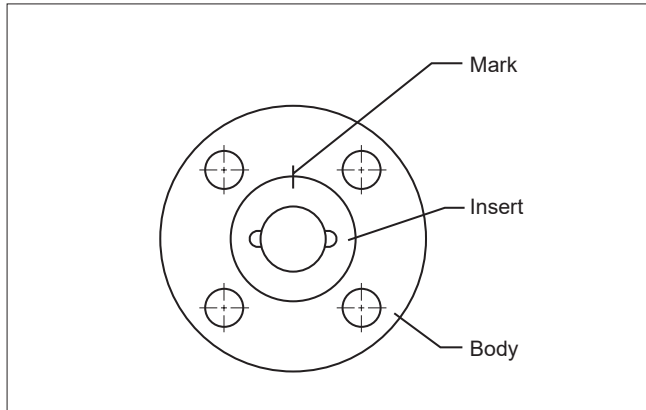

Figure 4.
2. From inside of the body cavity, insert one stem bearing (24), then one stem seal (7), then the second stem bearing (24) up into the lower stem counterbore.
3. From the outside of the body, insert the two upper stem seals (8) into the upper stem counterbore.
4. Insert the stem (4) into the body cavity (threaded end first), and press it gently up into the stem bore until resistance is felt from lower stem bearing. Be careful not to scratch the seals.
5. Holding the stem in place from inside the body, drop the compression ring (21) over threaded end of stem protruding out of body stem bore. Follow same procedure with slotted stem washer (50) and then screw on one stem nut (16).
7. Using a spanner wrench, screw the insert (2) into the body until it is fully seated. Mark the position as shown in (**Figure 4**). Counting the number of turns, remove the insert.